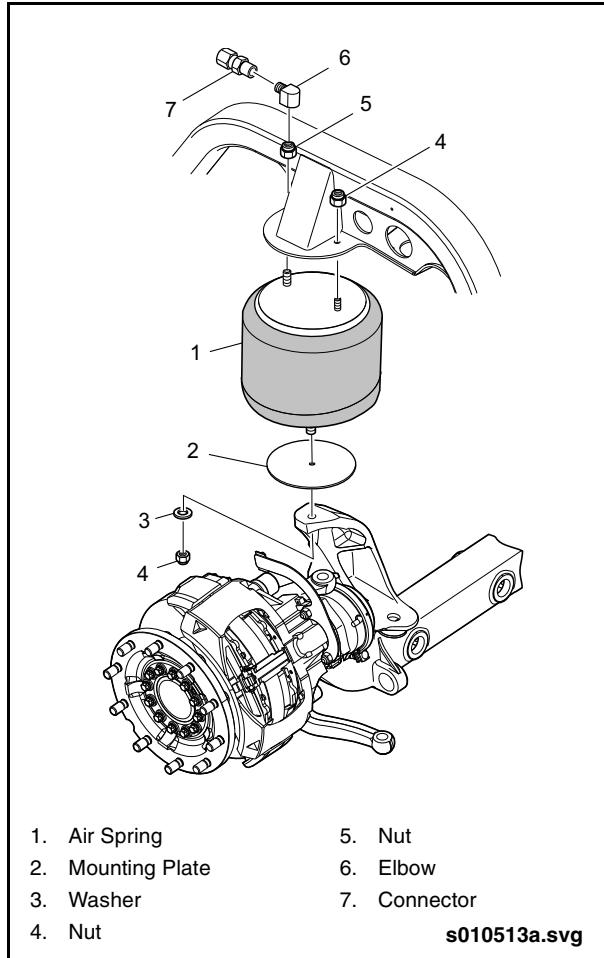

Fig. 1-37: Front Air Spring Removal & Installation
5. Disconnect air line. Remove lower nut attaching air spring to mounting plate. See "Fig. 1-37: Front Air Spring Removal & Installation" on page 32.